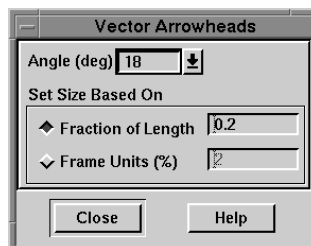

Figure 11-6. The Vector Arrowheads dialog.
1. Choose Arrowheads from the Vector sub-menu of the Plot menu. The Vector Arrowheads dialog appears as shown in Figure 11-6.